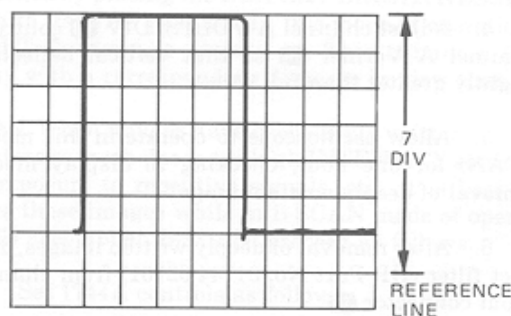

Figure 13. Absolute Voltage Measurement
- Measure the distance in divisions between the reference line and the level on the waveform you want to measure. An example is shown in figure 13.
Example: Assume the vertical distance is 7 div, the waveform is above the reference line, and the VOLTS/DIV setting is 0.5 V/div (see figure 13). The waveform is above the reference line, so the voltage is positive.